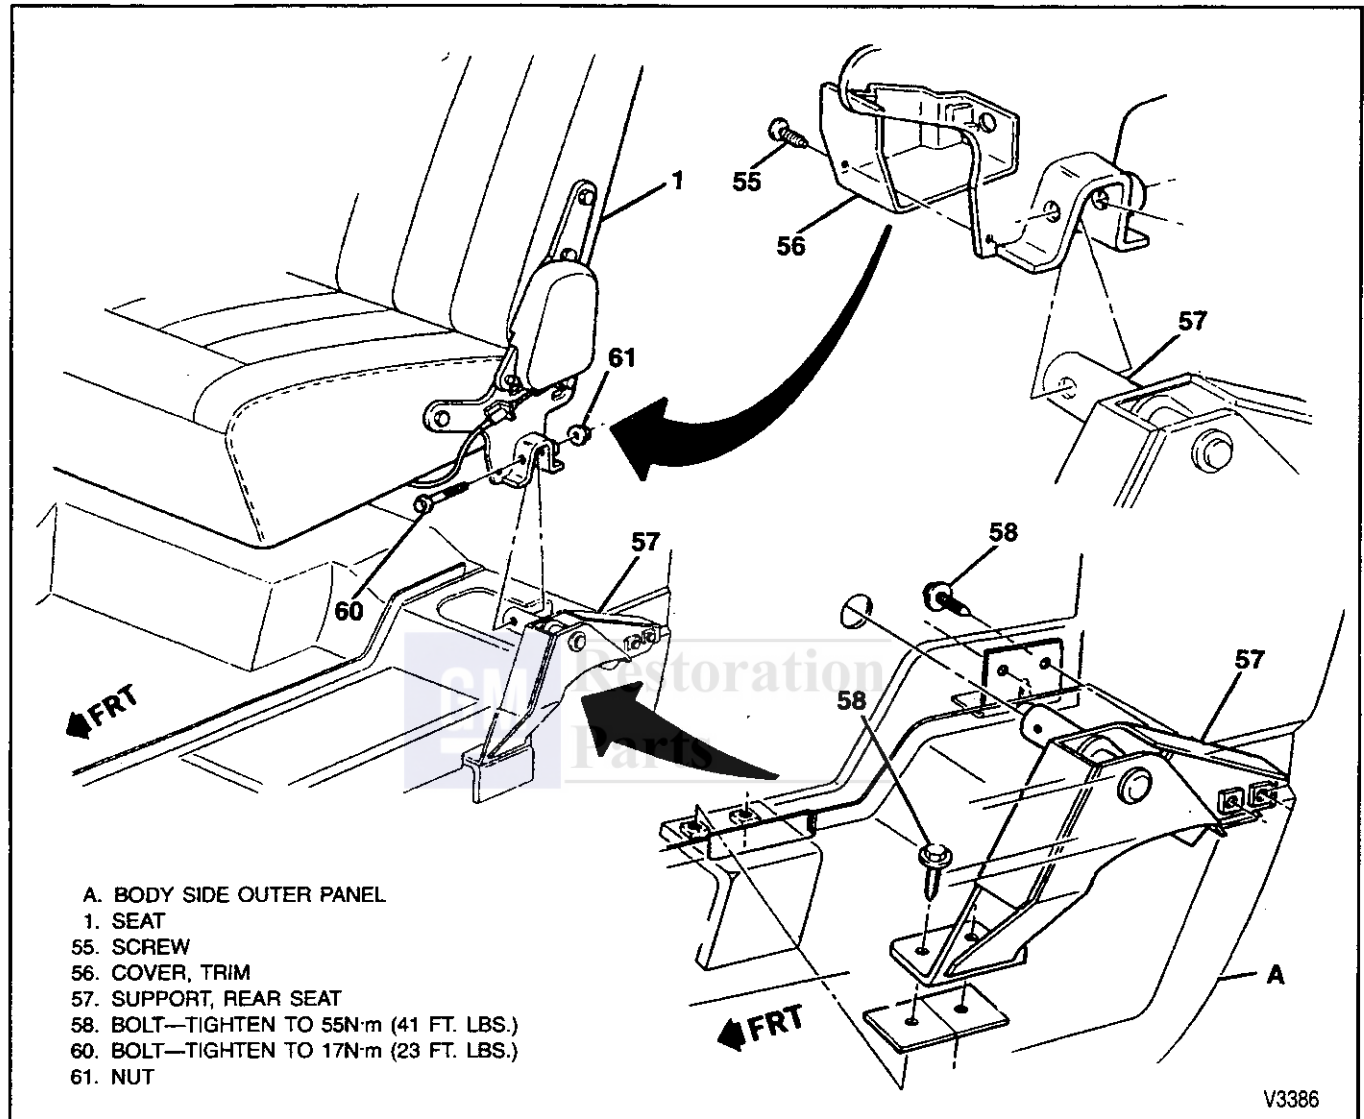

Figure 8—Rear Folding Seat Mounting (Extended Cab)
1. Front and rear leg trim covers and (figure 8).
Remove or Disconnect (Figures 8 through 12)
- Refer to figures 8 through 12 for specifications.
Remove or Disconnect (Figure 8)
### Install or Connect (Figure 8)